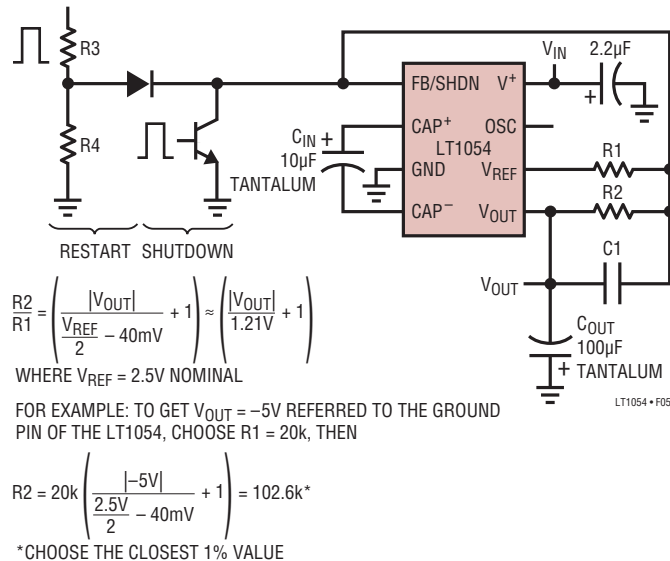

Figure 5
**FB/SHDN (Pin 1):** Feedback/Shutdown Pin. This pin has two functions. Pulling Pin 1 below the shutdown threshold ( $\approx 0.45V$ ) puts the device into shutdown. In shutdown the reference/regulator is turned off and switching stops. The switches are set such that both  $C_{IN}$  and  $C_{OUT}$  are discharged through the output load. Quiescent current in shutdown drops to approximately  $100\mu A$  (see Typical Performance Characteristics). Any open-collector gate can be used to put the LT1054 into shutdown. For normal (unregulated) operation the device will start back up when the external gate is shut off. In LT1054 circuits that use the regulation feature, the external resistor divider can provide enough pull-down to keep the device in shutdown until the output capacitor ( $C_{OUT}$ ) has fully discharged. For most applications where the LT1054 would be run intermittently, this does not present a problem because the discharge time of the output capacitor will be short compared to the off-time of the device. In applications where the device has to start up before the output capacitor ( $C_{OUT}$ ) has fully discharged, a restart pulse must be applied to Pin 1 of the LT1054. Using the circuit of Figure 5, the restart signal can be either a pulse ( $t_p > 100\mu s$ ) or a logic high. Diode coupling the restart signal into Pin 1 will allow the output voltage to come up and regulate without overshoot. The resistor divider  $R3/R4$  in Figure 5 should be chosen to provide a signal level at pin 1 of  $0.7V$  to  $1.1V$ .
The error amplifier of the LT1054 servos the drive to the PNP switch to control the voltage across the input capacitor ( $C_{IN}$ ) which in turn will determine the output voltage. Using the reference and error amplifier of the LT1054, an external resistive divider is all that is needed to set the regulated output voltage. Figure 5 shows the basic regulator configuration and the formula for calculating the appropriate resistor values.  $R_1$  should be chosen to